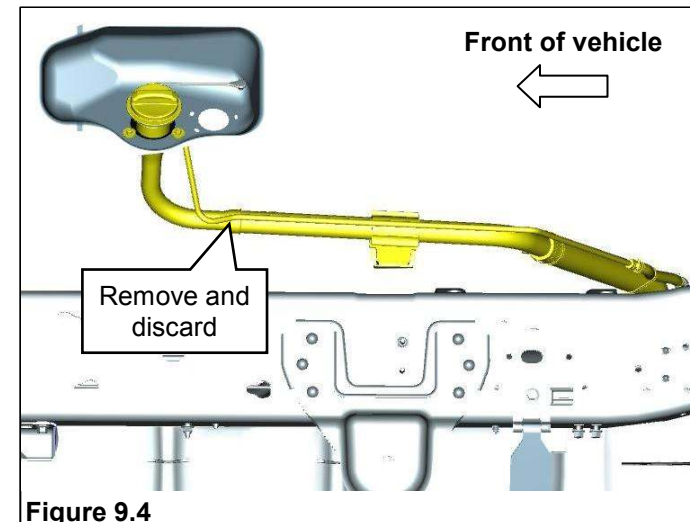

Figure 9.4
3. Remove and discard the fuel fill tube assembly and gas cap, including mounting bracket, between the fuel door and the fuel tank. **Figure 9.4.**